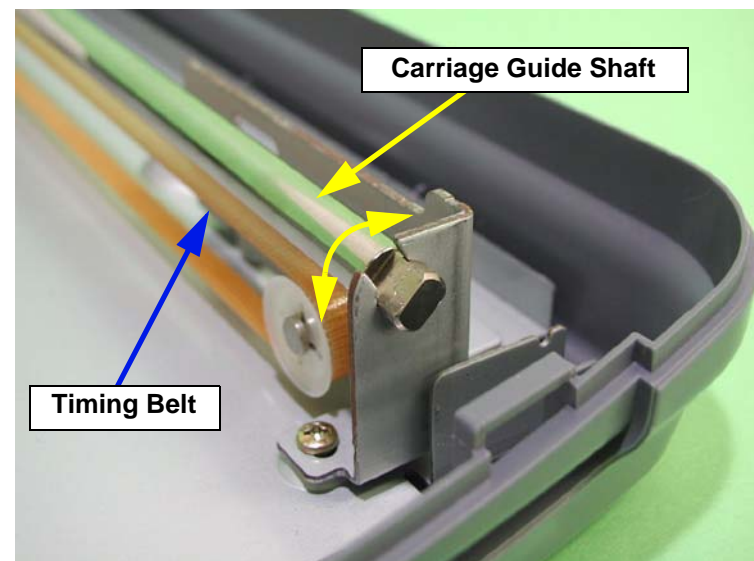

Figure 4-12. Carriage Unit Removal (2)
5. Use a spanner or similar tool to turn the carriage guide shaft until the notches are aligned, and then remove the carriage guide shaft. (See Figure 4-12)